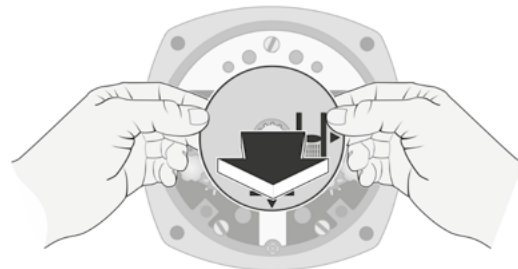

Fig. 2: Pulling off the position indicator
2. Pull off position indicator with both hands (fig. 2).